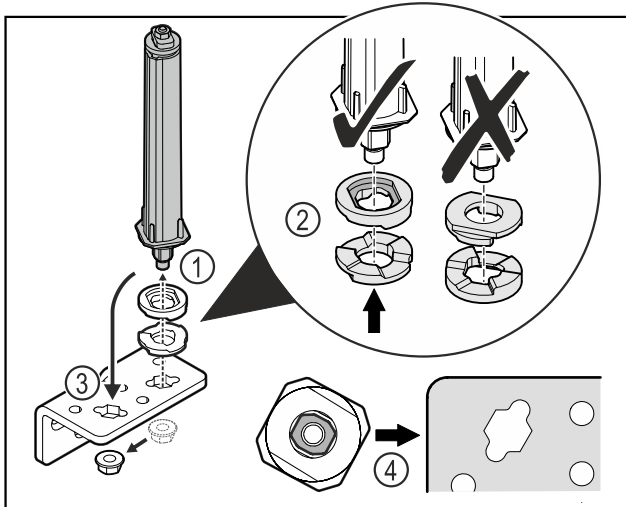

Fig. 54
- ▶ Loosen the nut and remove the door closing system Fig. 54 (1).
- ▶ Observe the correct alignment of the height adjustment washers Fig. 54 (2).
- ▶ Put the door closing system in the hinge fix in place with the nut Fig. 54 (3).
- ▶ Observe the correct alignment of the door closing system when doing so Fig. 54 (4).